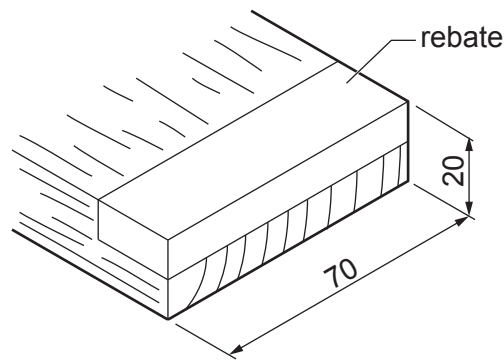

Fig. 9.1
- 9 Fig. 9.1 shows the end of a length of softwood with a rebate marked out.